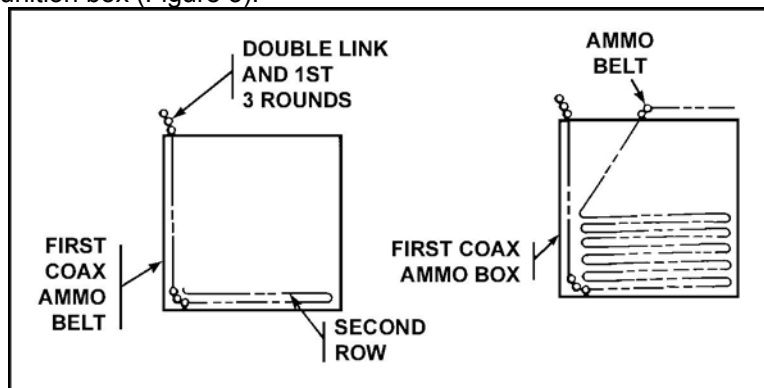

Figure 3. 100-round belt of ammunition loaded in ammunition box.
3. Load the ammunition box (Figure 3).